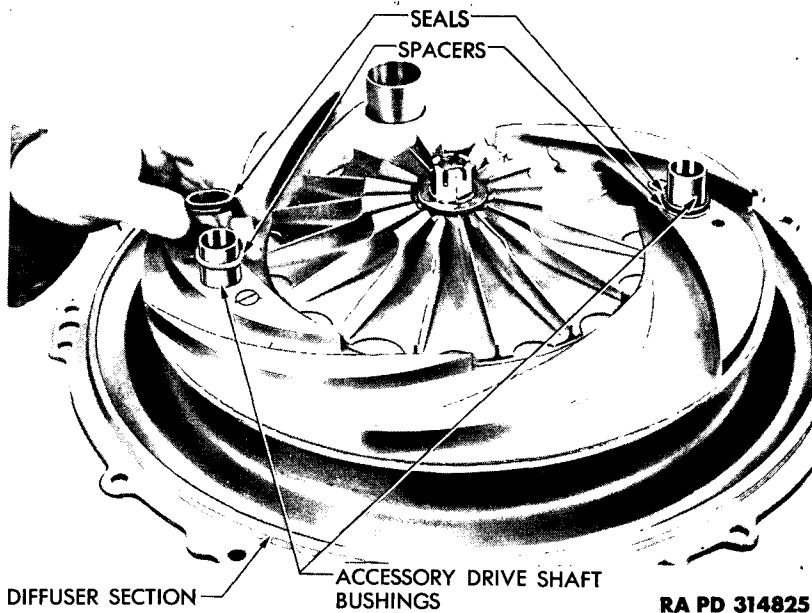

Figure 201 – Installing Spacers and Seals on Accessory Drive Shaft Bushings
h. Install Spacers and Rubber Oil Seals. With rear side of diffuser section facing up on bench, install spacers and rubber oil seals over accessory drive shaft bushings (fig. 201). Press spacers and oil seals down against diffuser ring.